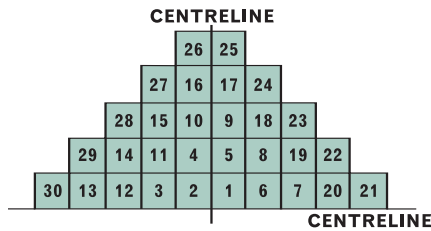

Figure 13 Pyramid layout
B. Lay the first pyramid of tiles from the centrelines, using the sequence shown in Figure 13. Ensure a close bond is maintained at all times.
Note: Construction of a pyramid should always start at the centre of the baseline, working in the same sequence as shown in Figure 13.